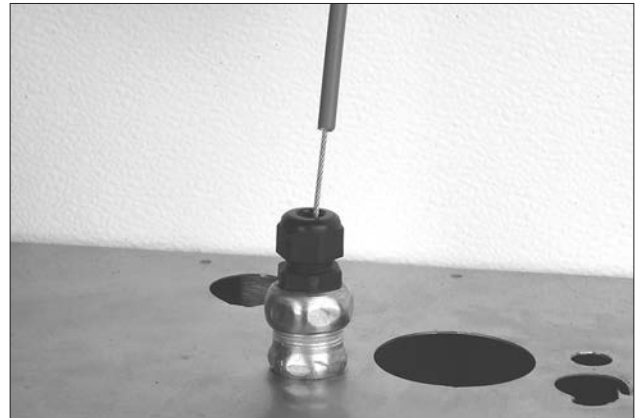

FIGURE 5-59
- 8. Thread the wire rope through the flexible conduit. See Figure 5-59. (If a splice is required in the flexible conduit, proceed to "Splicing Installation Instructions.")